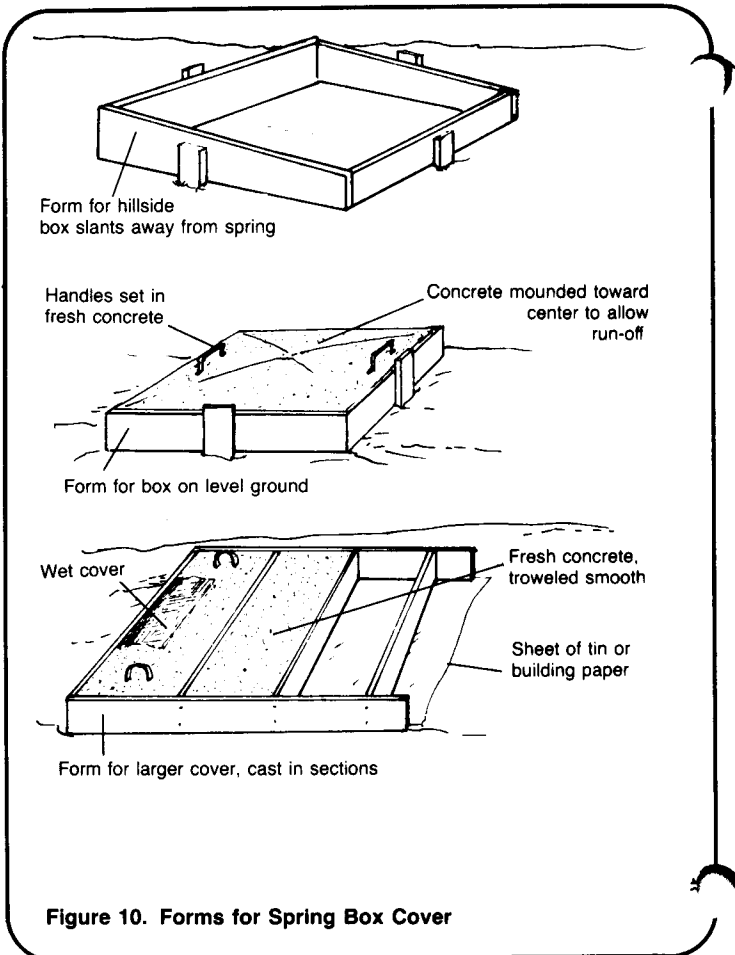

Figure 10. Forms for Spring Box Cover
6. Pour the concrete into the forms. Tamp the concrete to be sure that the forms are filled completely and that there are no voids or air pockets that can weaken it. Smooth all surfaces. Smooth the concrete for the spring box cover so the middle is a little higher than the sides (convex shape), as shown in Figure 10. This will allow water to run off the cover away from the spring box.